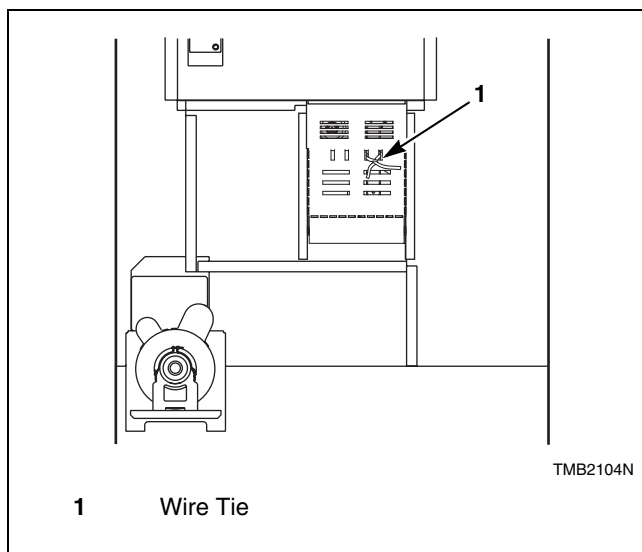

Figure 7
3. Remove and discard wire tie from the airflow switch so it can swing freely. Refer to *Figure 7*.
- Failure to remove wire tie from rear of machine. Refer to *Figure 7*.